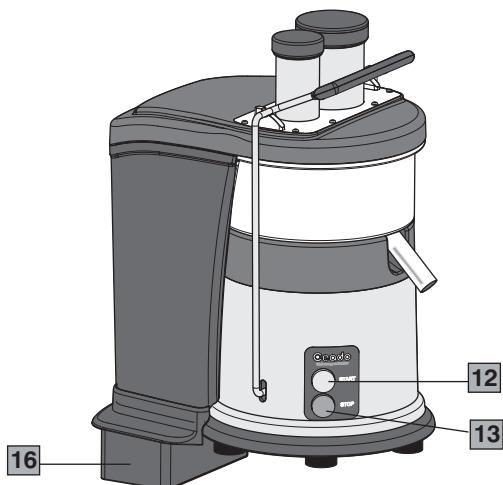

Fig. 5
| 7 | Feed chute | Model ES900 (Fig. 5) | |
1. Place the pulp container support (17, Fig. 5) near the housing from the rear.
4. Place the discharge connection (16, Fig. 5) in the hole just created, **taking care to insert the fixing hooks "b" correctly into the holes "c" provided in the bottom of the appliance** (4, Fig. B).